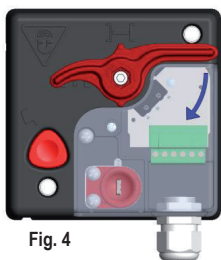
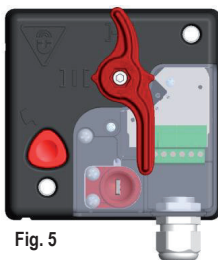

Fig. 4
Fig. 5
- From the unlocked position (Figure 4), where the indicator on the rearmament lever is positioned on the symbol] - [, turn the lever 90 ° clockwise making sure that the command locks into place opening (fig.5), the indicator is located on the lever on the symbol] | [.